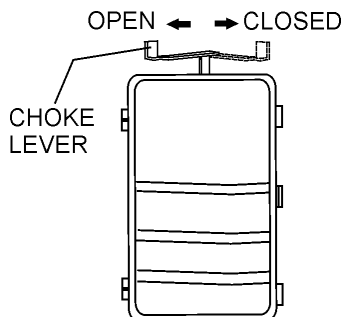

Figure 12. Choke Lever
2. Place the **choke lever** (Figure 12) in the "CLOSED" position if starting a **cold** engine.
- If the engine has started, slowly return the choke lever (Figure 12) to the **"OPEN"** position. If the engine has not started repeat steps 1 through 5.